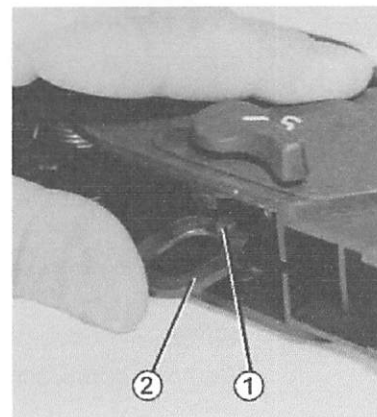

Fig. 58 Replace catch and/or compression spring
- ⇒ With your thumb, press catch (Fig. 58/2) downwards and to the left to unseat catch arrow (Fig. 58/1) from the catches of the catch disc.